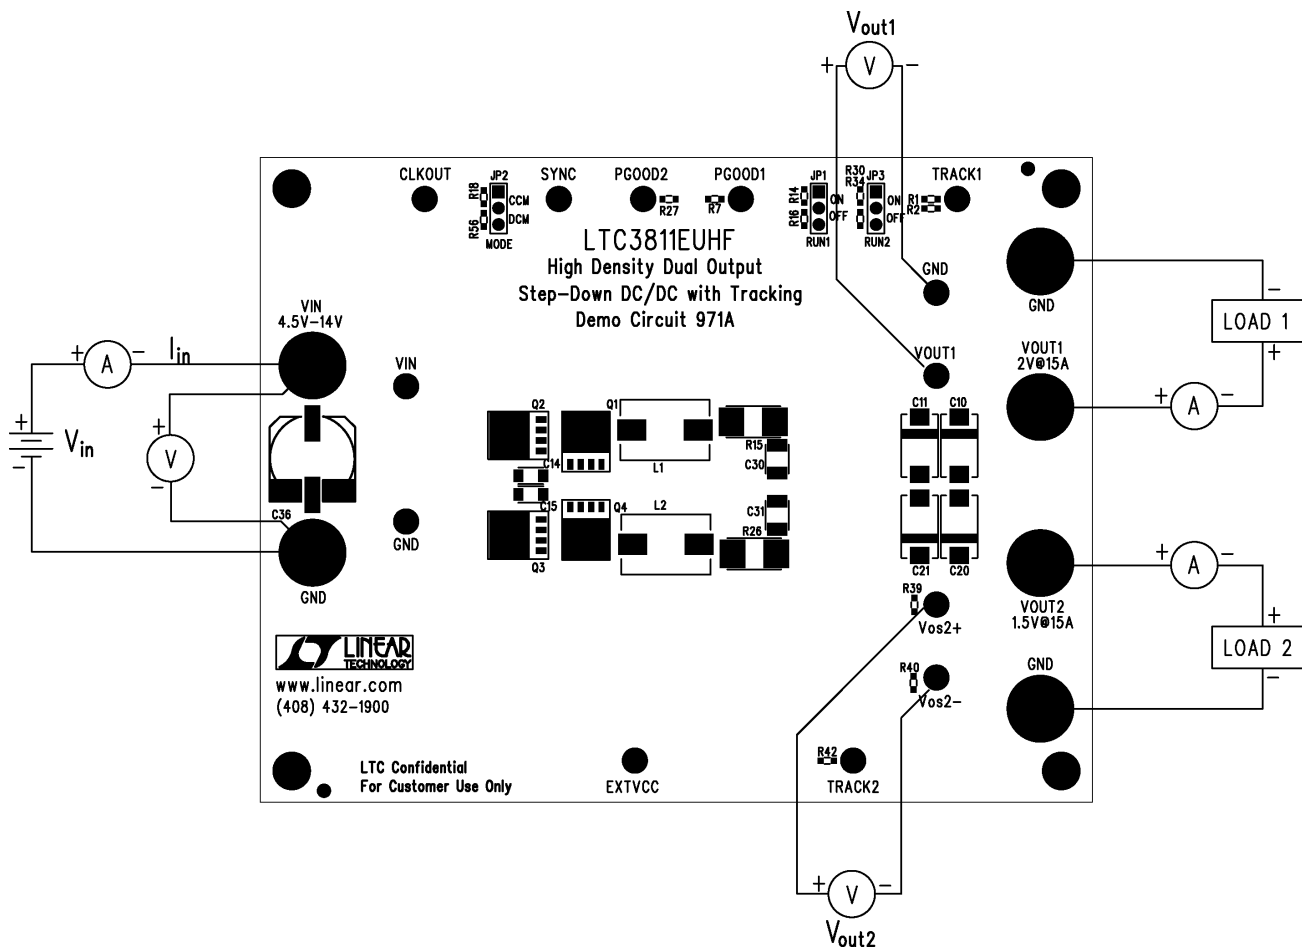

Figure 1. Proper Measurement Equipment Setup
Demonstration circuit 971 is easy to set up to evaluate the performance of the LTC3811EUHF. Refer to Figure 1 for proper measurement equipment setup and follow the procedure below:
1. With power off, connect the input power supply to VIN and GND. Connect the load between VOUT1, VOUT2 and GND. Preset the load current at 0A (minimum). Refer to Figure 1 for correct test set up. The RUN1 and RUN2 jumpers should be at "on" position.